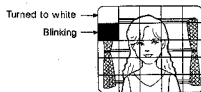

Fig. 64
- To mask other areas, move the cursor to the desired area by using the Up Switch (Δ) (10), Down Switch (V) (7), Left Switch (<) (9) or Right Switch (>) (8). The previous masked area then stops blinking and turns to white as shown in Fig. 64.